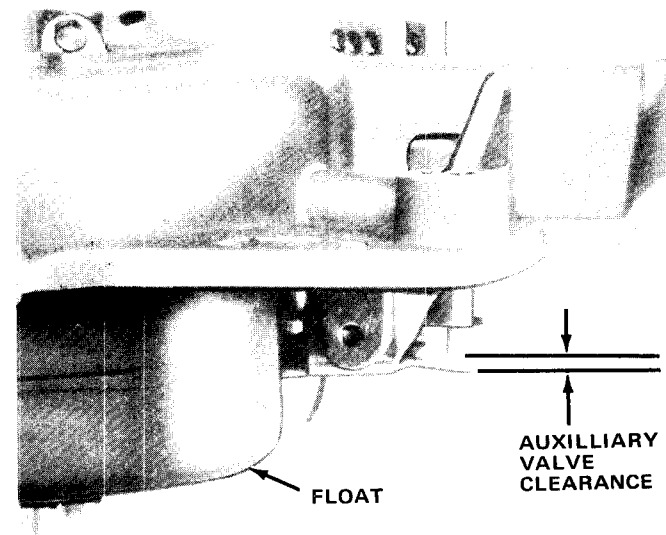

Fig. 4-75 Auxiliary Inlet Valve Adjustment
(1) Turn air horn assembly upright, allowing the float to hang freely. Push up on the float until the primary fuel inlet needle lightly contacts its seat.
(2) While holding float in this position, measure clearance between float level auxiliary tab and auxiliary inlet valve plunger. Bend tab as required (fig. 4-75).
(3) Refer to Carburetor Service Specifications for correct setting.